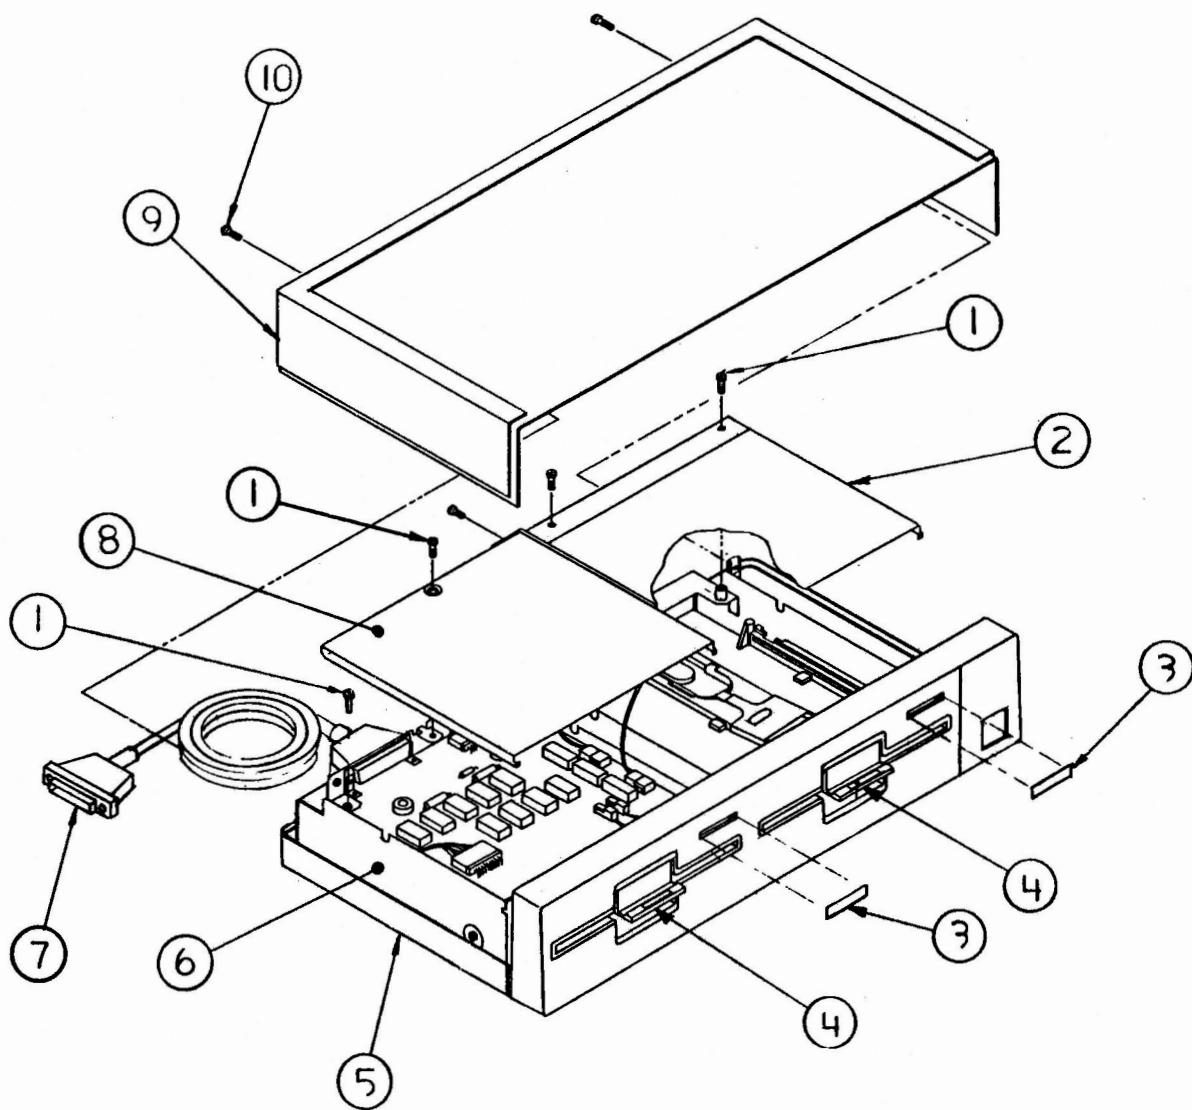

FIGURE 1
IPL.3	External Parts (Figure 1)
□ EXTERNAL PARTS (Figure 1)